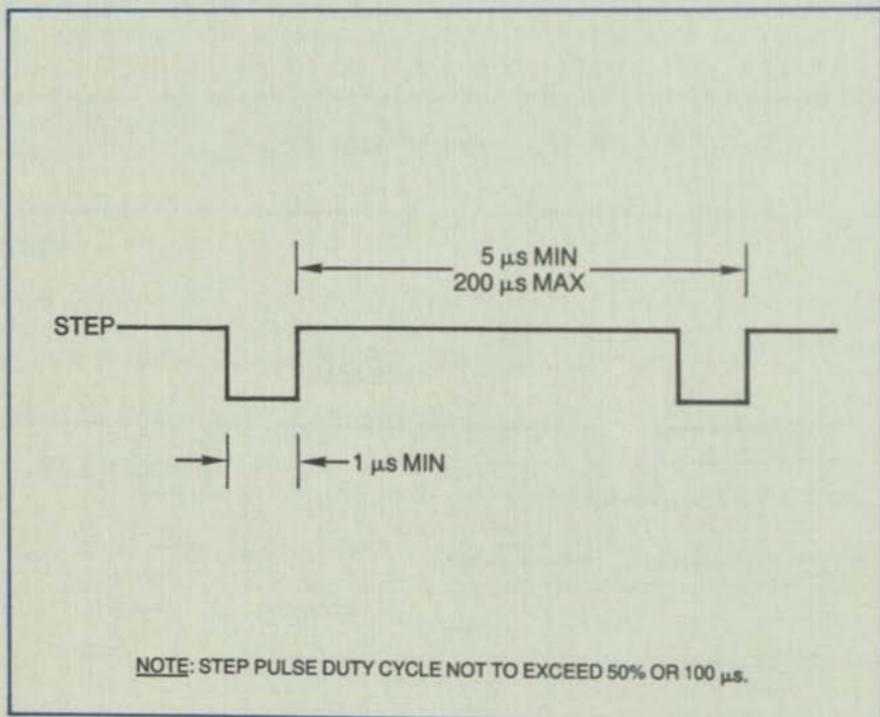

Figure 14. Buffered Seek Timing
- Buffered seek. A STEP pulse rate of 5 to 200 microseconds places the drive into the buffered seek mode, where head movement is in one continuous motion. In this mode, drive logic buffers incoming step pulses until either 200 microseconds elapse after the last pulse or the total number of pulses exceeds the maximum number of possible head movements. When either of these conditions occur, drive logic executes the step pulses using an optimum algorithm. Figure 14 shows buffered seek timing.